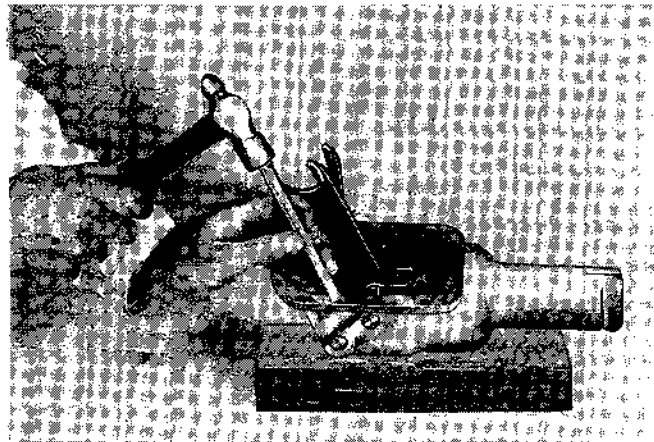

Figure 38 - Peening Lock Pin
3. Secure the shift rod in place by drifting the small lock pin into place through the control cover and the rod. The shortest lock pin secures the first and reverse rod. Peen both ends of lock pins to prevent them from working out; see Figure 38.